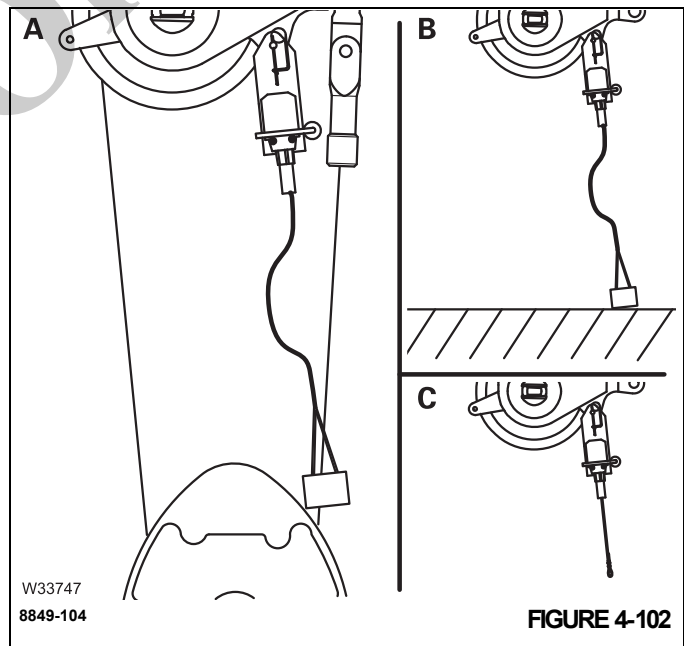

FIGURE 4-102
- (A), (Figure 4-102) – the hook block raises the anti-two block switch weight or
- (B), (Figure 4-102) - the anti-two block switch weight touches the ground upon lowering or
- (C), (Figure 4-102) – the anti-two block switch weight is not attached.